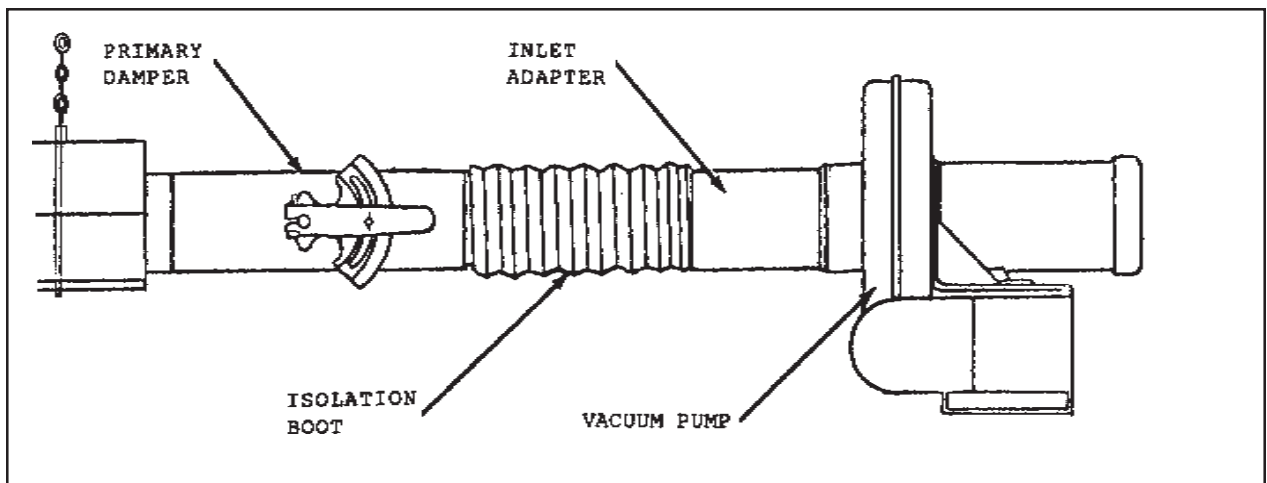

Figure 2.16
4. Install isolation boot with clamps provided (see Figure 2.16).